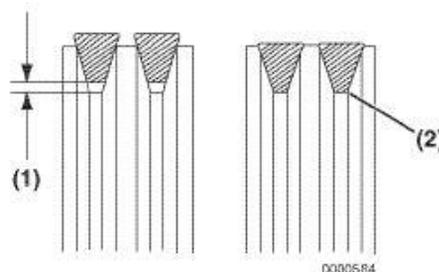

Figure 6
3. Tighten the V-belt to the correct tension. There must be a gap (**Figure 6, (1)**) between the V-belt and the bottom of the disc groove. If there is no gap (**Figure 6, (2)**) between the V-belt and the bottom of the disc groove, replace the V-belt.